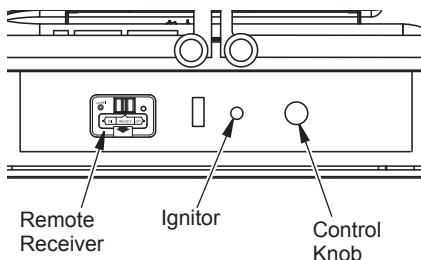

Figure 18 - Heater Control Locations
- 4. Push in control knob slightly and turn clockwise  to the OFF position (see Figure 18).
- 5. Wait five (5) minutes to clear out any gas. Then smell for gas around heater and near the floor. If you smell gas, STOP! Follow "B" in the safety information above. If you do not smell gas, go to the next step.
- 6. Push in control knob slightly and turn counterclockwise  to the PILOT position. Press in control knob for five (5) seconds.